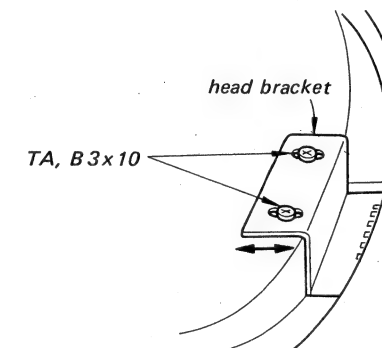
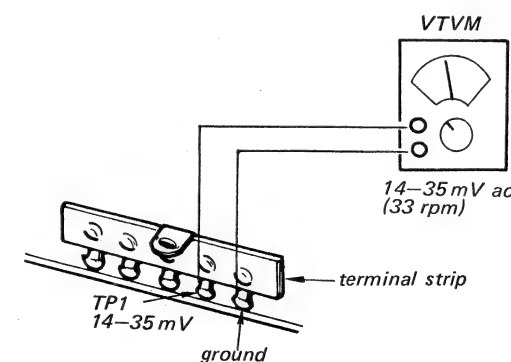

Fig. 3-2
Fig. 3-3
1. Adjust the position of the head bracket by loosening B3×10 screws (See Fig. 3-2) so that the VTVM reads 14–35 mV (33 rpm) as shown in Fig. 3-3.